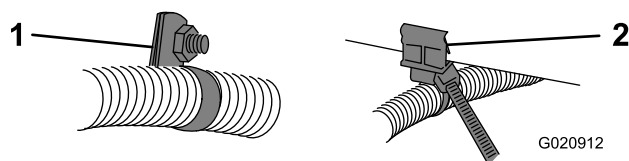

Figure 9
4. Use cable clamps and edge clips to secure the wire harness along the inside of the frame (Figure 9).